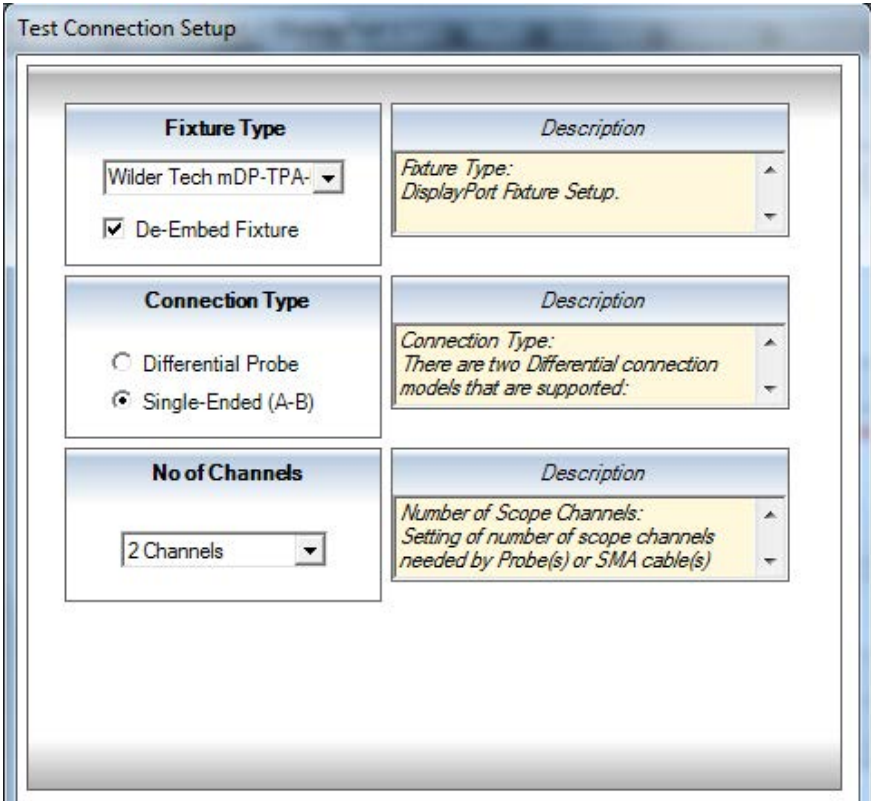

Figure 4. DisplayPort EPVC software Test Connection Setup Screen.
- Test fixture selection: Select the test fixture used. See Figure 4.
- Connection type: Single-ended vs. differential connection: Choose between using two channels of the scope to make a differential measurement using an 'A minus B' technique or by using differential probe on each scope channel for each lane, see Figure 4.
- Number of channels: You may choose to test 1, 2, or 4 channel connection. (Note: Differential connection allows full lane selection, while single-ended can only support testing 1 or 2 lanes). See Figure 4.